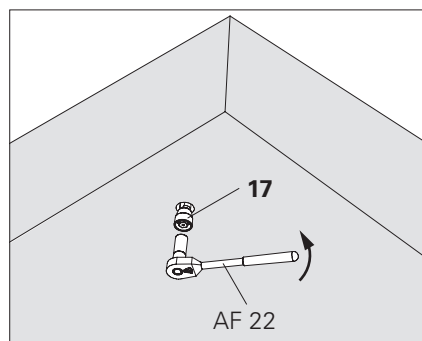

Fig. B1.02
3. Unscrew Threaded Cone M24 (**17**) from the anchor sleeve using a ratchet wrench and socket AF 22. (Fig. B1.02)